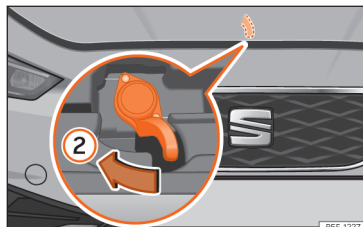

Fig. 225 Lever under the bonnet.
- To lift the bonnet, press towards the left on the lever located under the bonnet, in the centre >>> Fig. 225 ②. The fastening hooks are unlocked.